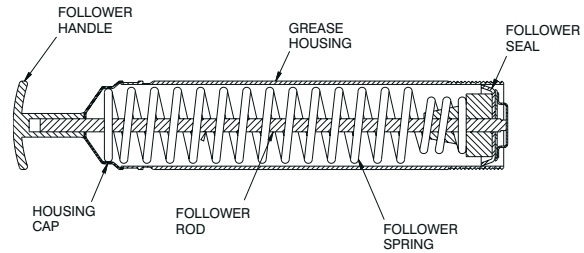

Figure 7-2. Cartridge Housing Components
There is a follower seal at the bottom of the Grease Housing. The seal lip must be directed toward the follower handle for cartridge loading. When filling the housing with grease manually (bulk) or with a hand pump, the seal must be flipped so the lip is directed toward the pump head. Refer to Figure 7-2. The illustration shows the seal in the cartridge position, seal lip toward follower handle.
3. Visually check that follower seal is in the correct position (Figure 7-2).